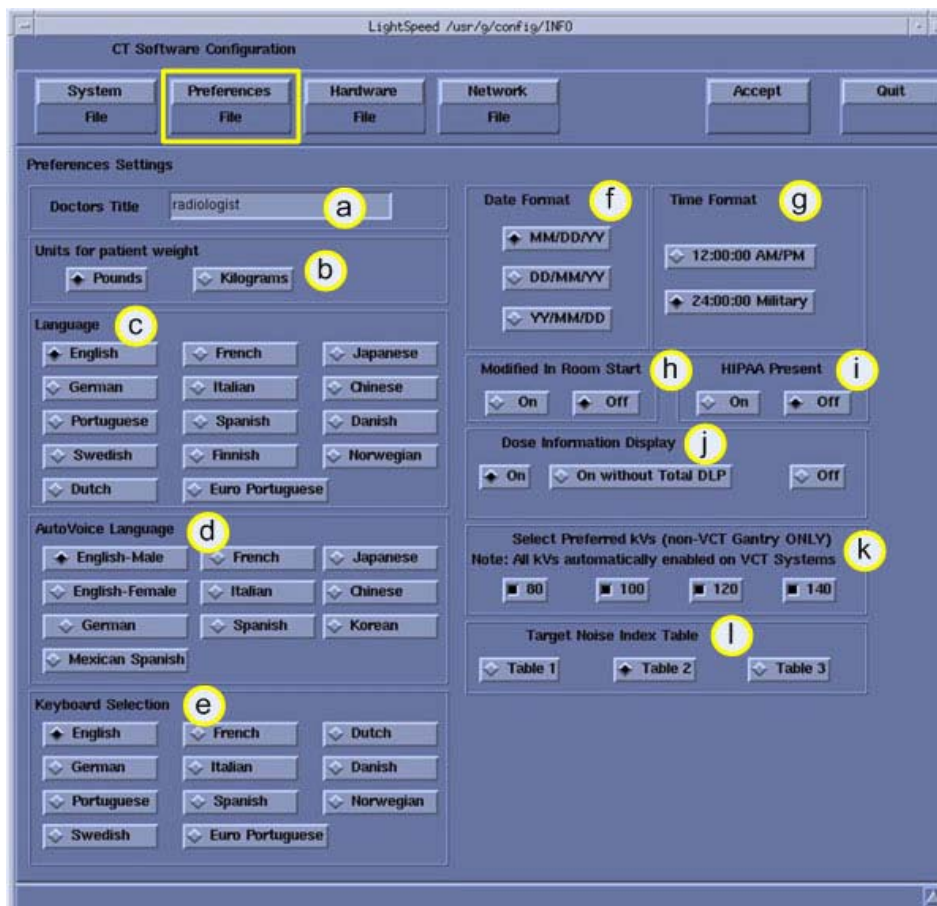
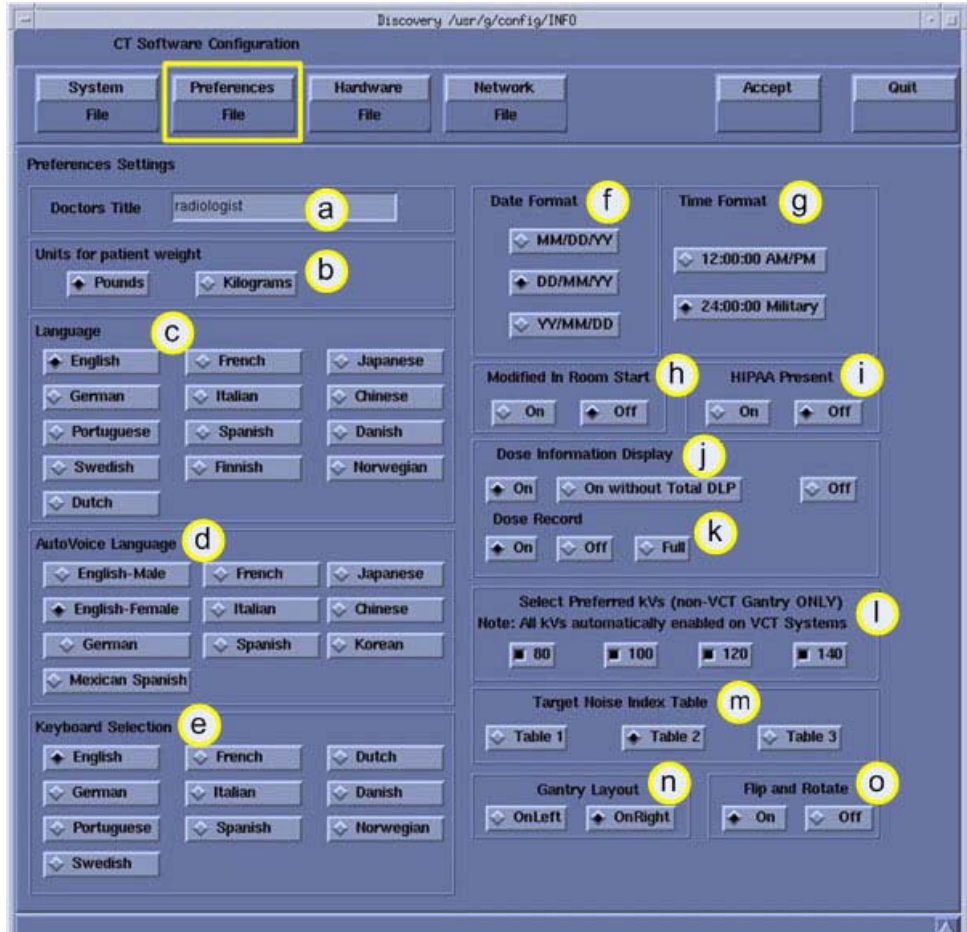

Figure 6-5 Preferences Setup Screen VCT Only)
Figure 6-6 Preferences Setup Screen (HD Example)
6.) Click the **PREFERENCES** button to display the Preference Settings Screen as shown in Figure 6-5. for VCT Example and the Figure 6-6 for HD Example.